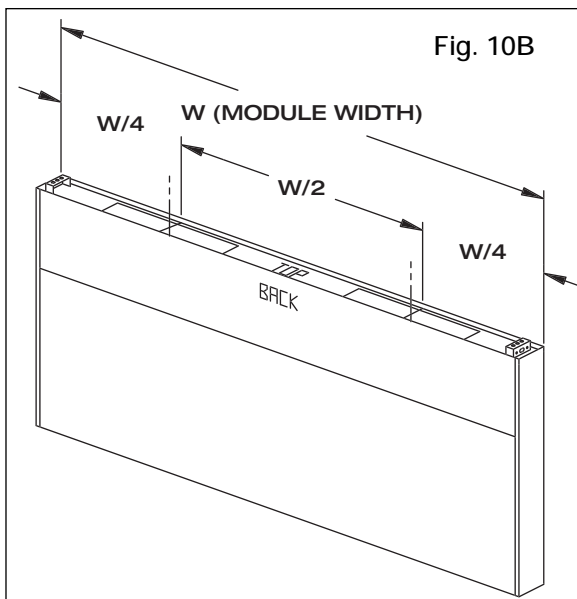

Fig. 10B
3. If the Backsupply Plenum is greater than 9 ft. 10 in. wide, divide the width of the backsupply by four. This will give you the center of each half. Cut openings at the suggested location, centering the duct collar over the center measurement of each half. (see Fig. 10B)